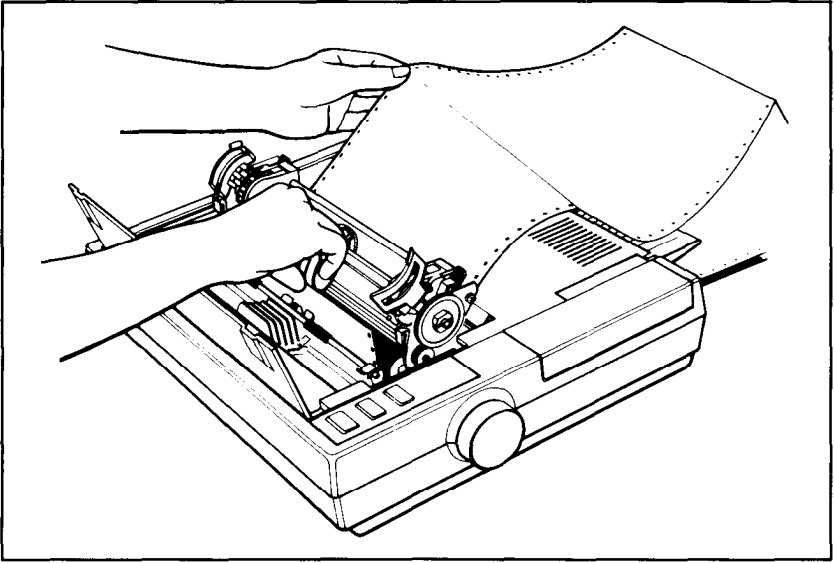

Figure 3-8. Loading paper
8. Now guide the paper behind the platen, and push it through until it comes up between the ribbon guide and the platen as shown in Figure 3-8. (Moving the paper with a side-to-side motion makes it easier to push the paper through.)